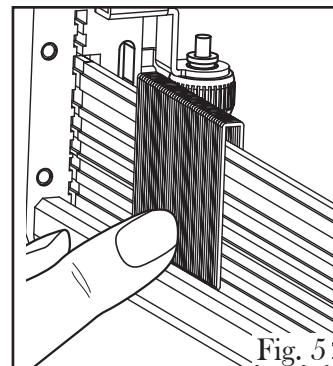

Fig. 5
A. Loading Staples: Place a clip of staples over the fixed magazine track as shown (Fig. 5).